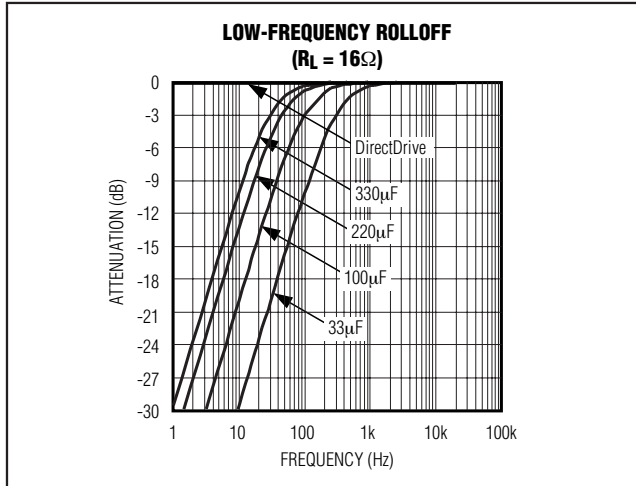

Figure 2. Low-Frequency Attenuation of Common DC-Blocking Capacitor Values
- The highpass filter is required by conventional single-ended, single-supply headphone amplifier to block the midrail DC component of the audio signal from the headphones. Depending on the -3dB point, the filter can attenuate low-frequency signals within the audio band. Larger values of  $C_{OUT}$  reduce the attenuation, but are physically larger, more expensive capacitors. Figure 2 shows the relationship between the size of  $C_{OUT}$  and the resulting low-frequency attenuation. Note the Vista's magnitude response specification calls for a -3dB point at 20Hz at the headphone jack. The -3dB point at 20Hz for a 32 $\Omega$  headphone requires a 330 $\mu$ F blocking capacitor (Table 2).